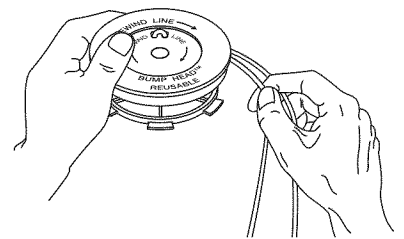

Fig. 17
7. Wind the lines in tight even layers onto the reel (Fig. 17). Wind the line in the direction indicated on the inner reel. Place an index finger between the two lines to stop the lines from overlapping. Do not overlap the ends of the line. Proceed to step 12.